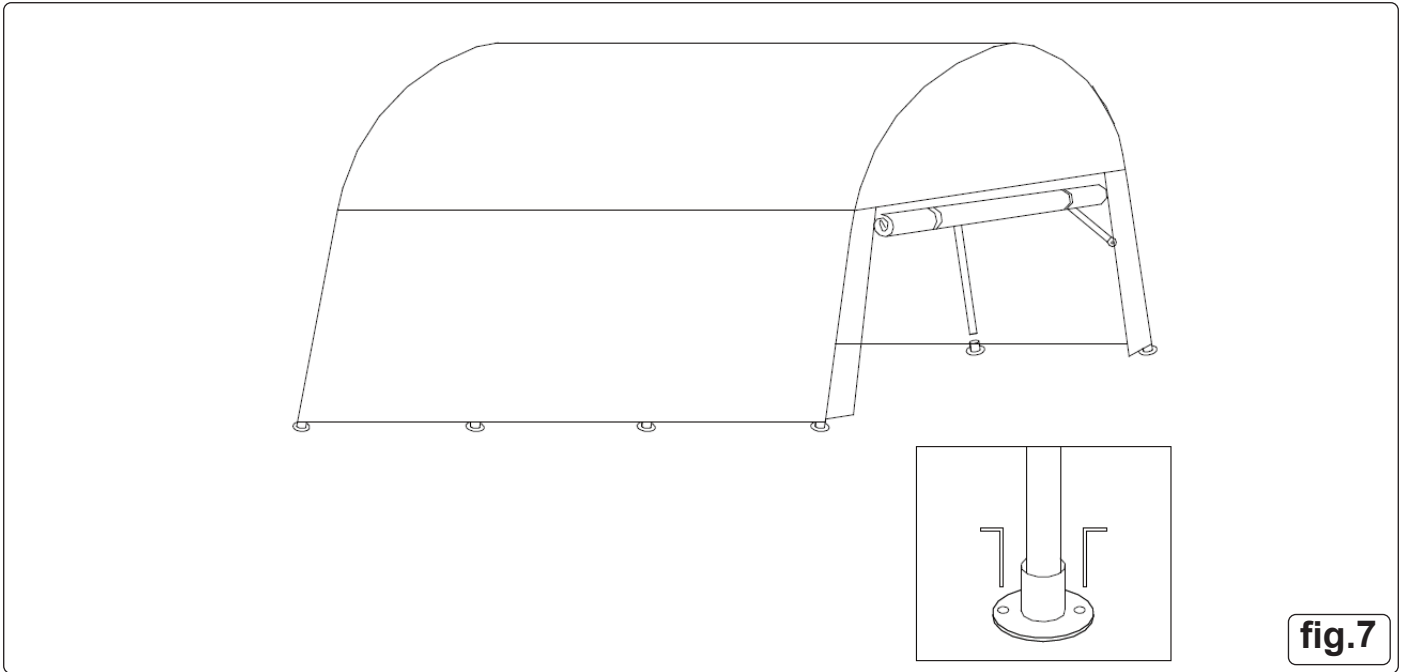

fig.7
- 4.2.8. Fit the ends using the toggles as before, see fig.7.
- 4.2.9. Anchor the shelter to the ground using the pegs, see fig.7.